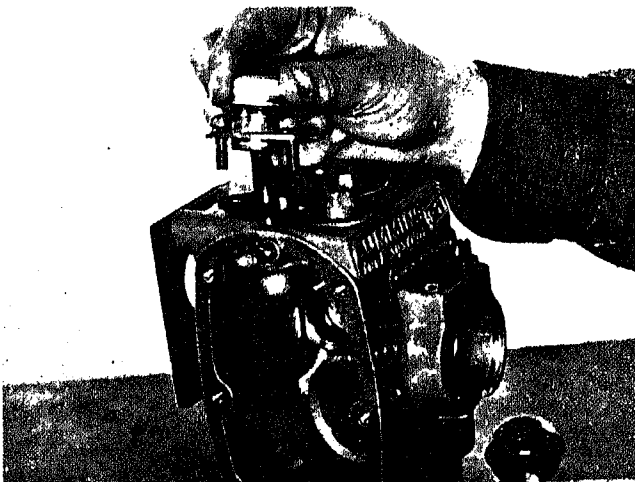

Fig. 510-1 Installing tachometer cover
3. Assemble tachometer cover and new gasket to the fuel pump housing. Fig. 510-1.